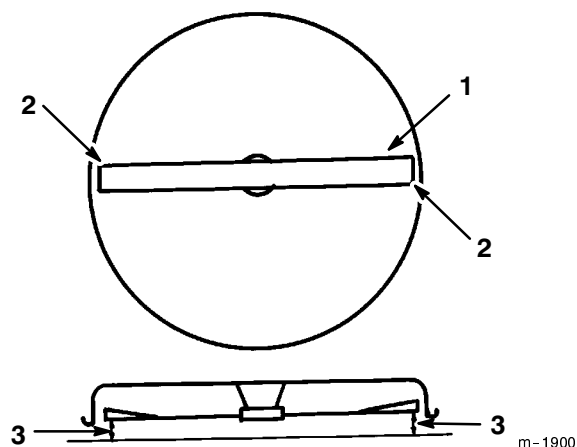

Figure 44
4. Carefully rotate the blade(s) side to side (Fig. 44). Measure between the outside cutting edges and the flat surface (Fig. 44). If both measurements are not within 3/16 in. (5 mm), an adjustment is required; refer to steps 5 and 6.